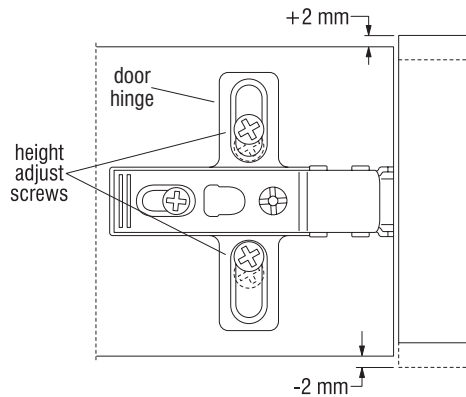

Figure 11 - Door Height Adjustment
16. For **door height adjustment** of ± 2 mm, loosen the two height adjust screws on each hinge and move door up or down. Retighten screws (Figure 11).